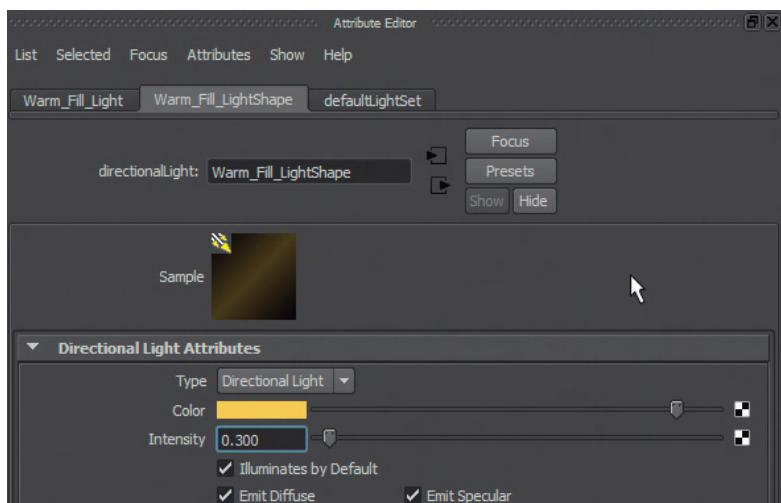

FIG 7.48 Adjusting attribute of the Warm_Fill_Light.
Step 7: Adjust the attribute of Warm_Fill_Light. Again, do this in the Attribute Editor. Turn the intensity down to 0.3 and change the color to an amber color that very roughly matches Fig. 7.48.